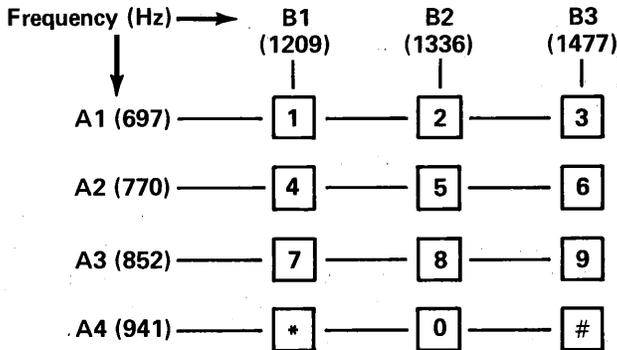

Figure 7, Telephone Dial Frequency Conversion
3.20 The DTMF frequency plan is arranged in two groups of four tones — low group (A) and a high group (B). A character or a digit is represented by two frequencies, one from each group. (See Fig. 7)